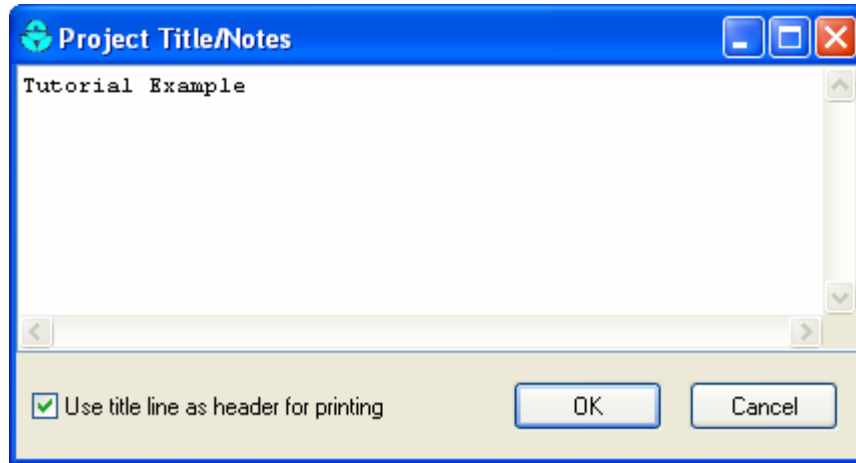

Figure 2-9. Title/Notes Editor.
2. In the Project Title/Notes dialog that appears (see Figure 2-9), enter “Tutorial Example” as the title of our project and click the **OK** button to close the dialog.